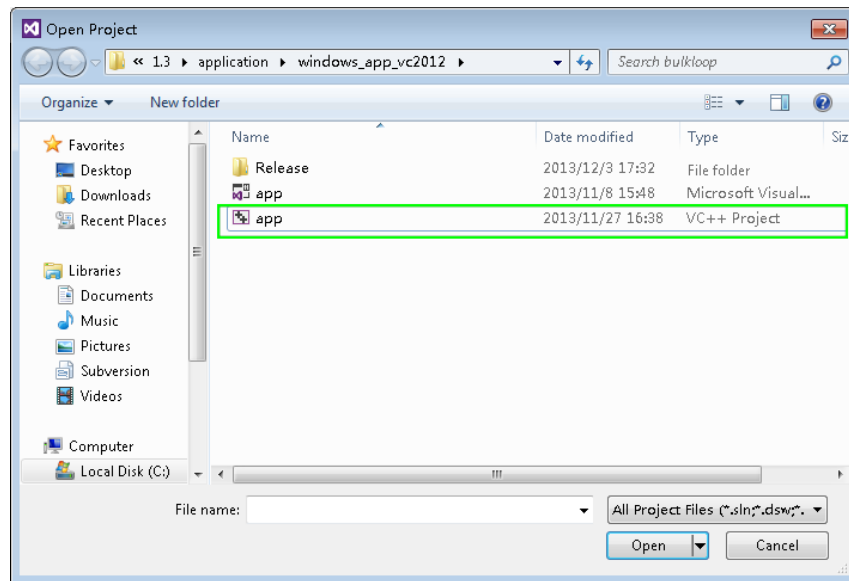

Figure 3-13 Open the project in Visual Studio 2012
5. Go to the **windows_app_vc2012** folder and select the project “app.vcxproj”, as shown in **Figure 3-13**.